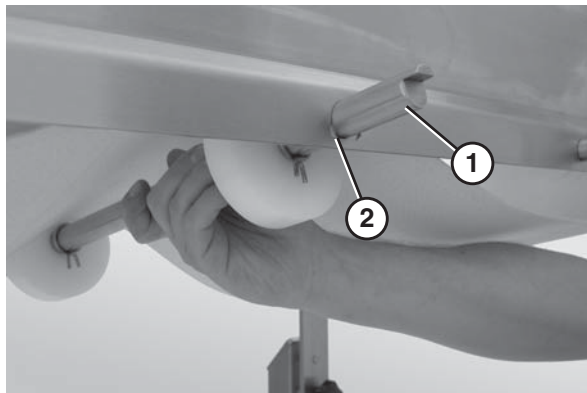

Figure 5
1. Slide the return shaft (Figure 5, item 1) up and through the large slot (Figure 5, item 2) in the frame.